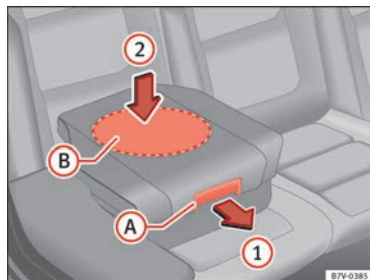

Fig. 33 Integrated child seats, lowering the cushion
- Pull the unlock lever ⇒ Fig. 33 (A) on the cushion in the direction of the arrow ①.
- Push the cushion down through the central area (B) in the direction of the arrow ② until it safely engages ⇒ ③. The side supports fold away automatically.